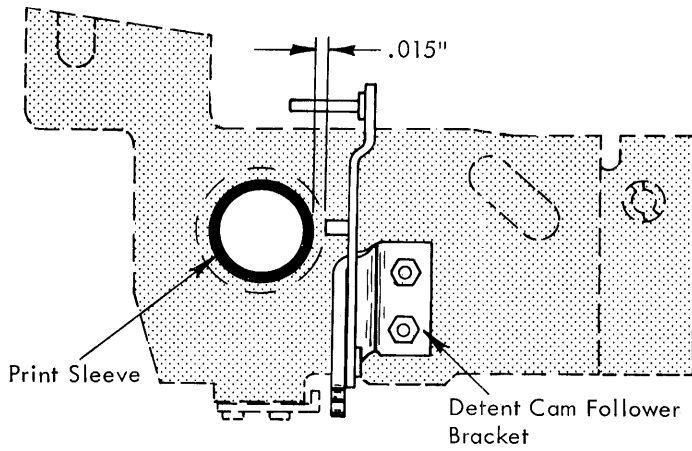

FIGURE 100A. Detent Cam Follower Bracket
- a. Front to rear for a clearance of .015" between the print sleeve and the end of the pin on the cam follower (Fig. 100a).